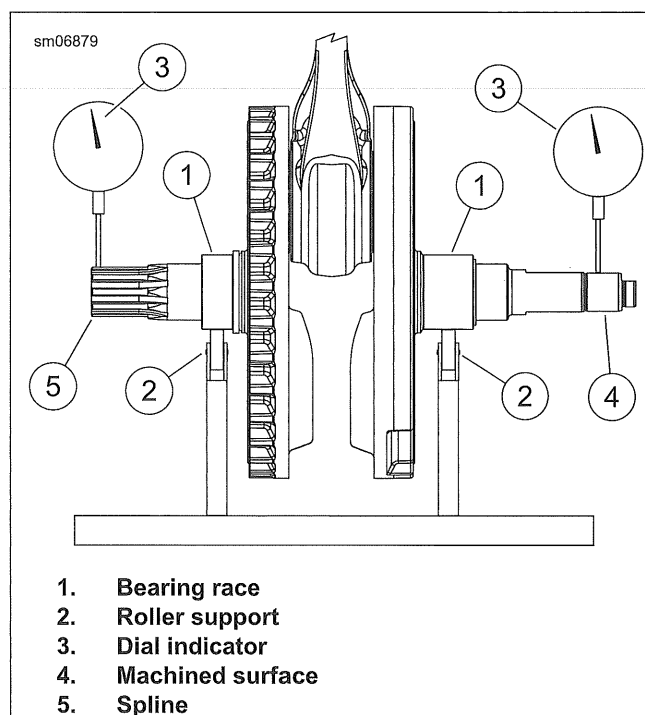

Figure 4-9. Checking Crankshaft Runout
- See Figure 4-9. Mount crankshaft in truing stand so it is supported on the bearing races (1) by the roller supports (2).